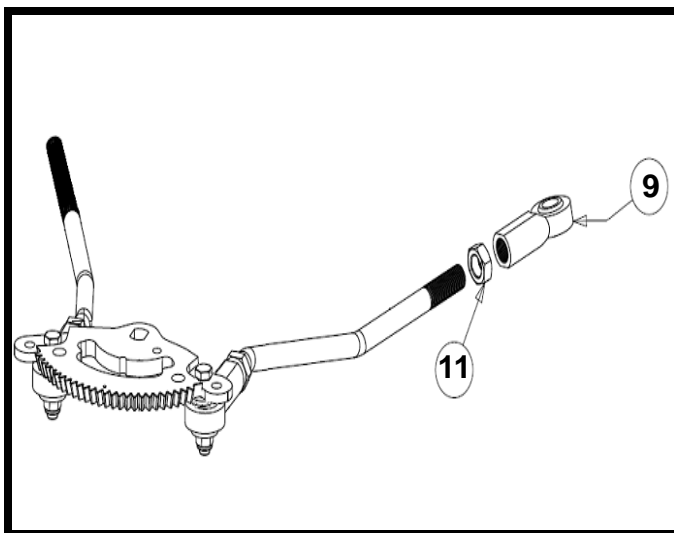
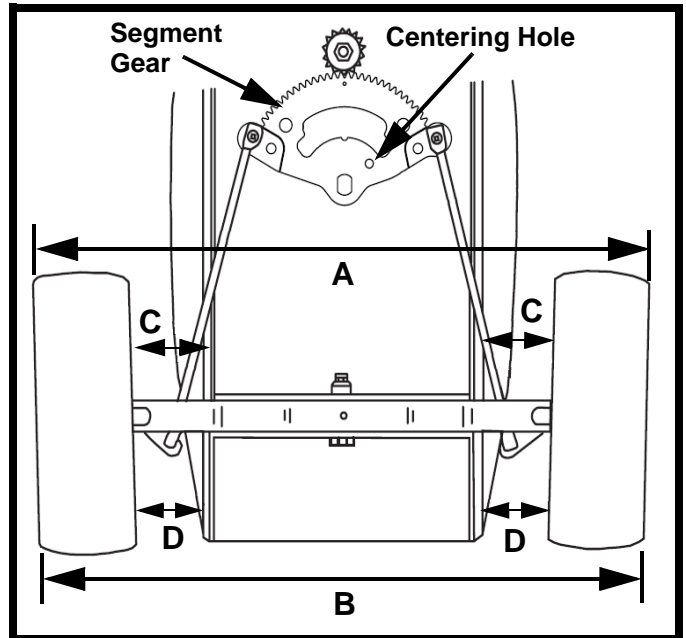

FIGURE 11
FIGURE 12
26. Thread one (1) of item #11 (712-3056) 5/8-18 jam nut onto the steering knuckle end of the right hand drag link assembly. See Figure 11. Thread the jam nut almost down to the end of the threads.
27. Thread one (1) of item #9 (723-04050) 5/8-18 ball joint onto the right hand drag link assembly about half the distance to the jam nut. See Figure 11.
NOTE: Figure 12 is a general diagram used for toe-in adjustments. Some items appear differently from those actual items being used in this Service Kit.
29. Check that the segment gear is in the center position. The hole in the segment gear (Figure 12) should be aligned with the hole in the steering housing. A 5/16 straight punch can be used to assure the segment gear is centered.
31. Measure the distance between the bottom edges of the tractor frame channels and the marks on the front of each wheel (See measurement D in Figure 12). These two measurements should be equal.
32. Measure the distance between the frame and the marks on the rear of each front wheel (See measurement C in Figure 11). Measurement D should be approximately 1/16" - to 1/8" less than measurement C on each side of the tractor.
33. Manually move each wheel to achieve the required toe-in and equal D measurements in Figure 12.
40. Confirm that the measurement is still equal at the **D** measurements in Figure 11 on page 4. Then measure across dimensions **A** and **B** shown in Figure 12 on Page 4. The **B** dimension should be approximately 1/8" to 1/4" less than the measurement dimension of **A**. Adjust as needed to set the correct toe-in.